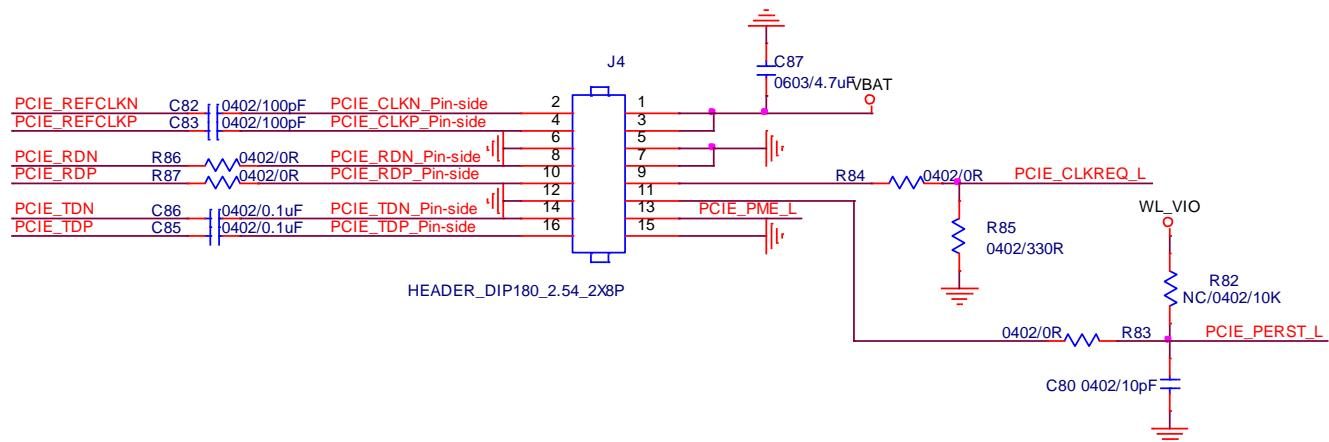

Figure2. WiFi verification connection interface to Host PCIe
- ❖ Refer to Figure2 PCIe pin definition connects the J4 interface of AP6281P evaluation board to Host PCIe control interface.